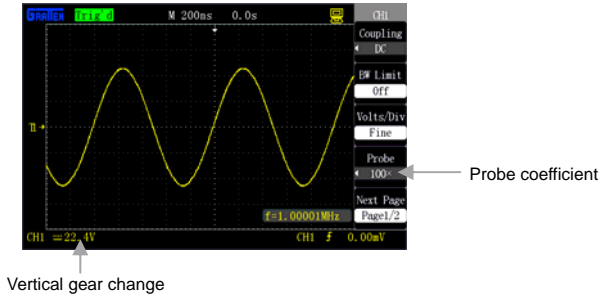

Figure 2-13 Probe 100X
- Press **[CH1]**→“**Probe**”→“**100X**”, as shown in figure 2-13: